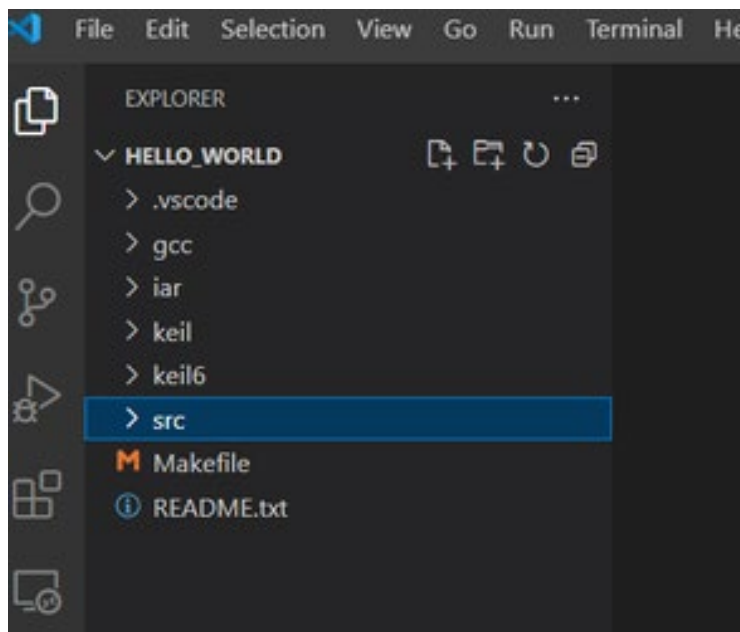

Figure 1- Hello_World Explorer View
1. Open Visual Studio Code, navigate to File -> Open Folder, and open the AmbiqSuite_R4.5.0/boards/<<EVB>>/examples/peripherals/hello_world folder. The explorer view will look like Figure 1.